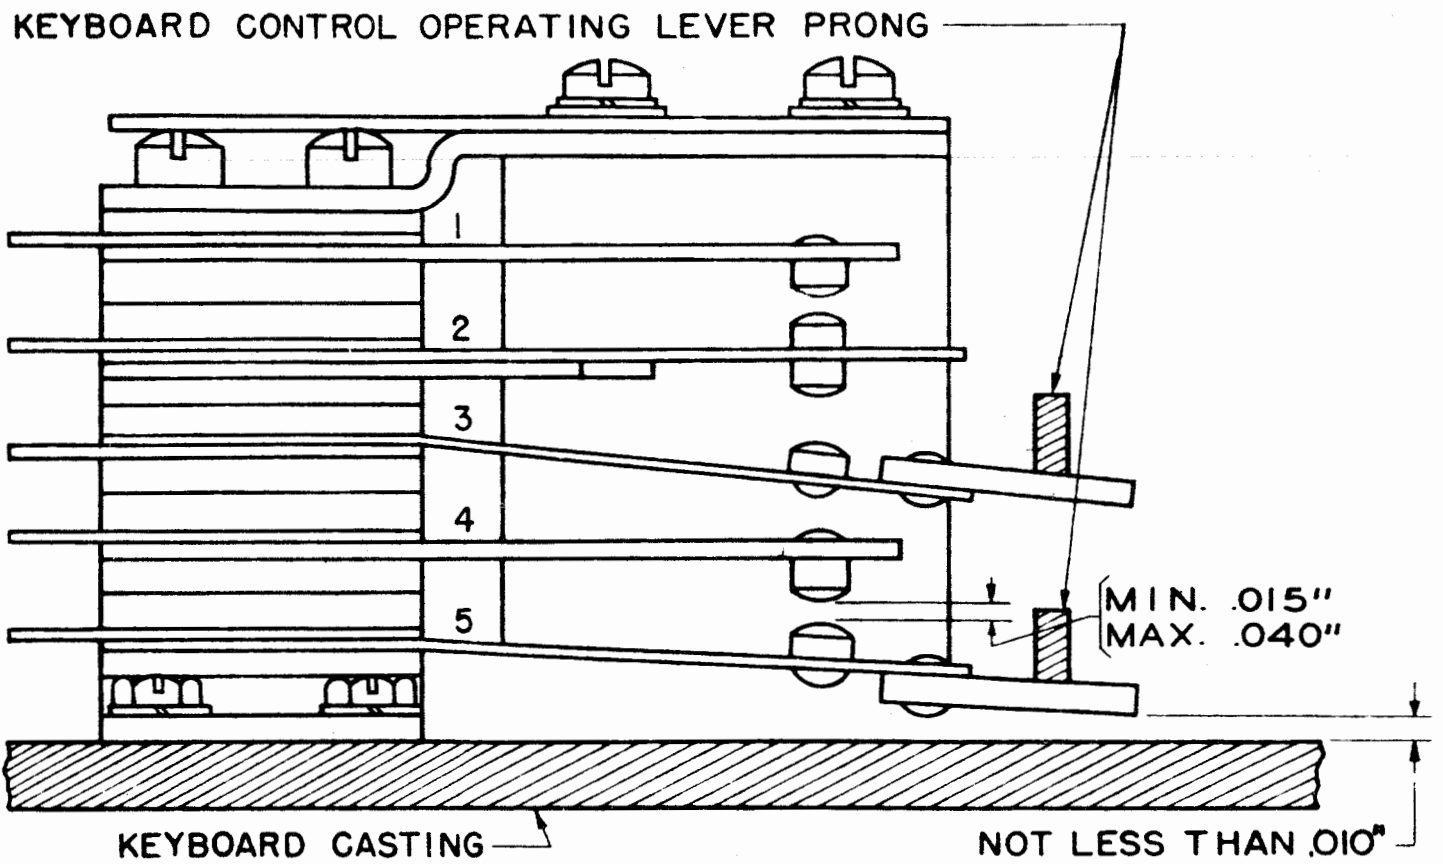

Figure 25
3.01 Keyboard-control Contact Springs: Perforator-control contact springs should meet the following requirements when the keyboard-control operating lever is in the upper KEYBOARD position. See Figure 25.